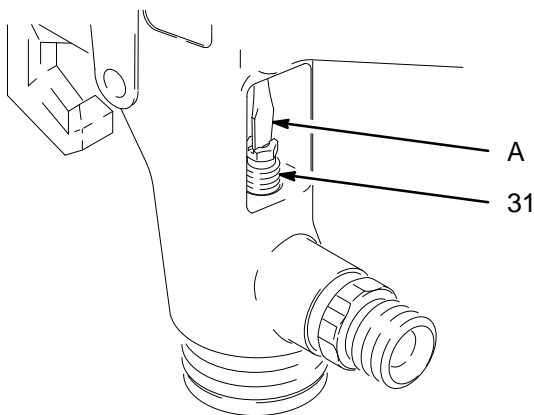

Fig. 7
2. Place the packing adjustment screw (31) over the packing assembly and start the threads into the gun. Then remove the needle.
3. Insert a thin-blade screw driver (A) through the back of the gun and into the packing adjustment screw (31) as shown in Fig. 7. Be careful not to nick or damage parts with the tool. Turn the screw with the screw driver (about 3 turns); the packing will still be loose.